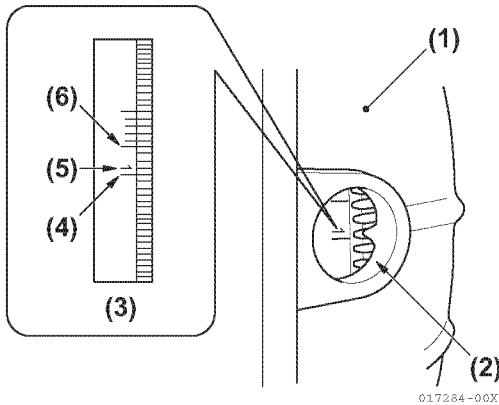

Figure 5-123
- The marking is applied on the flywheel to show the crankshaft angle (Figure 5-123).